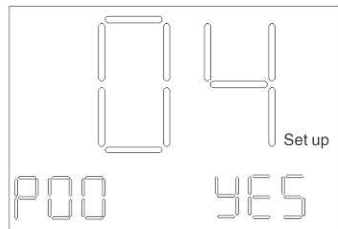

figure 5
1. Input 4mA correction, 2. Input 20mA correction, 3. Close direction.4. Location of letter loss.1. Input 4mA calibration (calibration range: 3.8-4.5mA)After entering the menu, the first internal control parameter is displayed. The display interface is shown in Figure 5."04" flickers in the half of the screen; internal control parameters are displayed in the lower left corner. The label is "P00". The lower right corner shows "NO". At this point, the standard 4mA control current is input to the control unit, and it is set for several seconds. After stabilization, pressing the down key of the remote control can be changed from "NO" to "YES". Press the remote control confirmation key to confirm that the current input current is 0%. Location. If the settings are successful, "LF" no longer flickers, fixed display "LF" 3 seconds later, automatically jump to the next control parameter; if not setSuccessfully, automatically jump to the next control parameter.